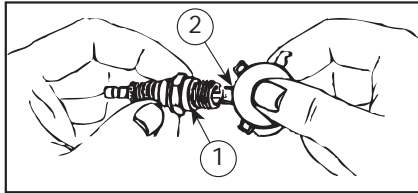

FIGURE D.5 - SET SPARK PLUG GAP
**CLEAN OR REPLACE SPARK PLUG:** Clean or replace the spark plug after every 100 hours of operation or every season, whichever comes first. Do not blast the spark plug clean with an abrasive cleaning device. Clean the plug by scraping it or by using a wire brush. Wash the plug with a commercial solvent. After cleaning or when installing a new spark plug, set the terminal gap to .030 inch (.76 mm) with a feeler gauge. See Figure D.5.